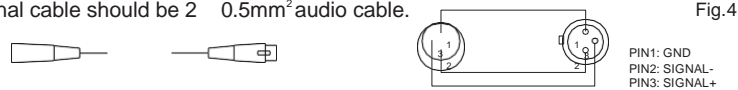

Fig.4
(4) Signal cable and connector (See Fig.4):